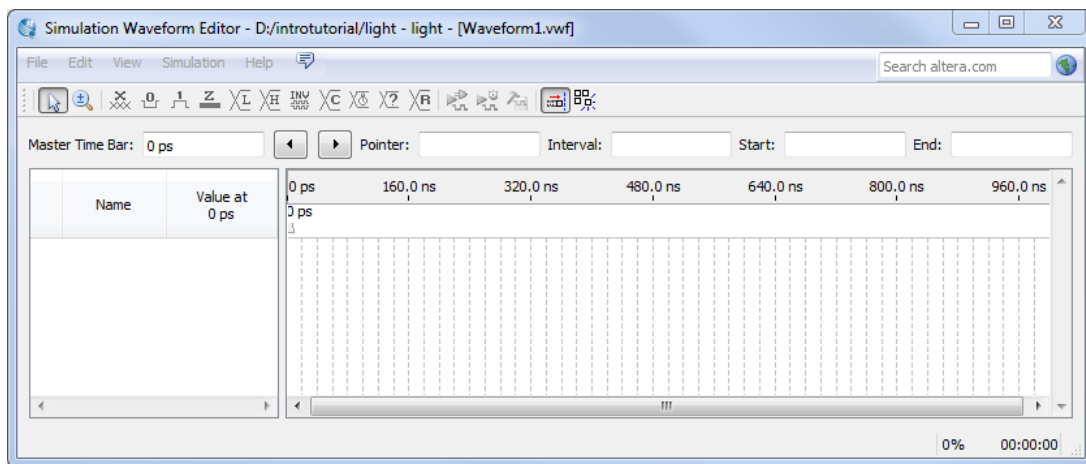
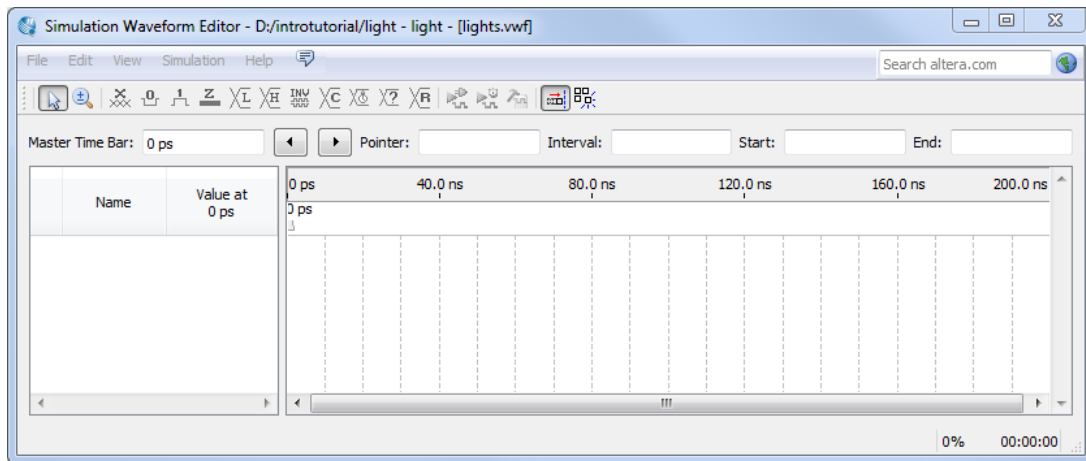

Figure 28. The Waveform Editor window.
Figure 29. The augmented Waveform Editor window.
2. The Simulation Waveform Editor window is depicted in Figure 28. Save the file under the name *light.vwf*; note that this changes the name in the displayed window. Set the desired simulation to run from 0 to 200 ns by selecting Edit > Set End Time and entering 200 ns in the dialog box that pops up. Selecting View > Fit in Window displays the entire simulation range of 0 to 200 ns in the window, as shown in Figure 29. You may wish to resize the window to its maximum size.